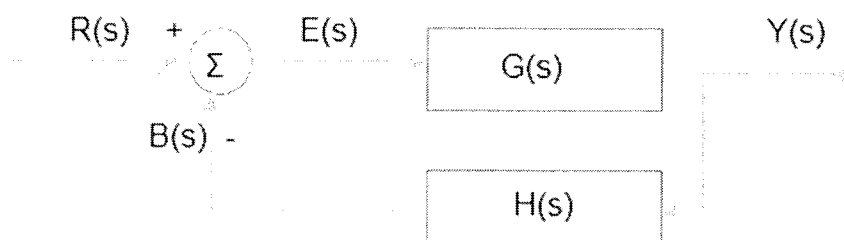

Figure.1
b. Derive the expression for Closed Loop Transfer Function in terms of system dynamics $G(s)$ and feedback multiplier $H(s)$ for the following control system shown in figure 1. (4 Marks)